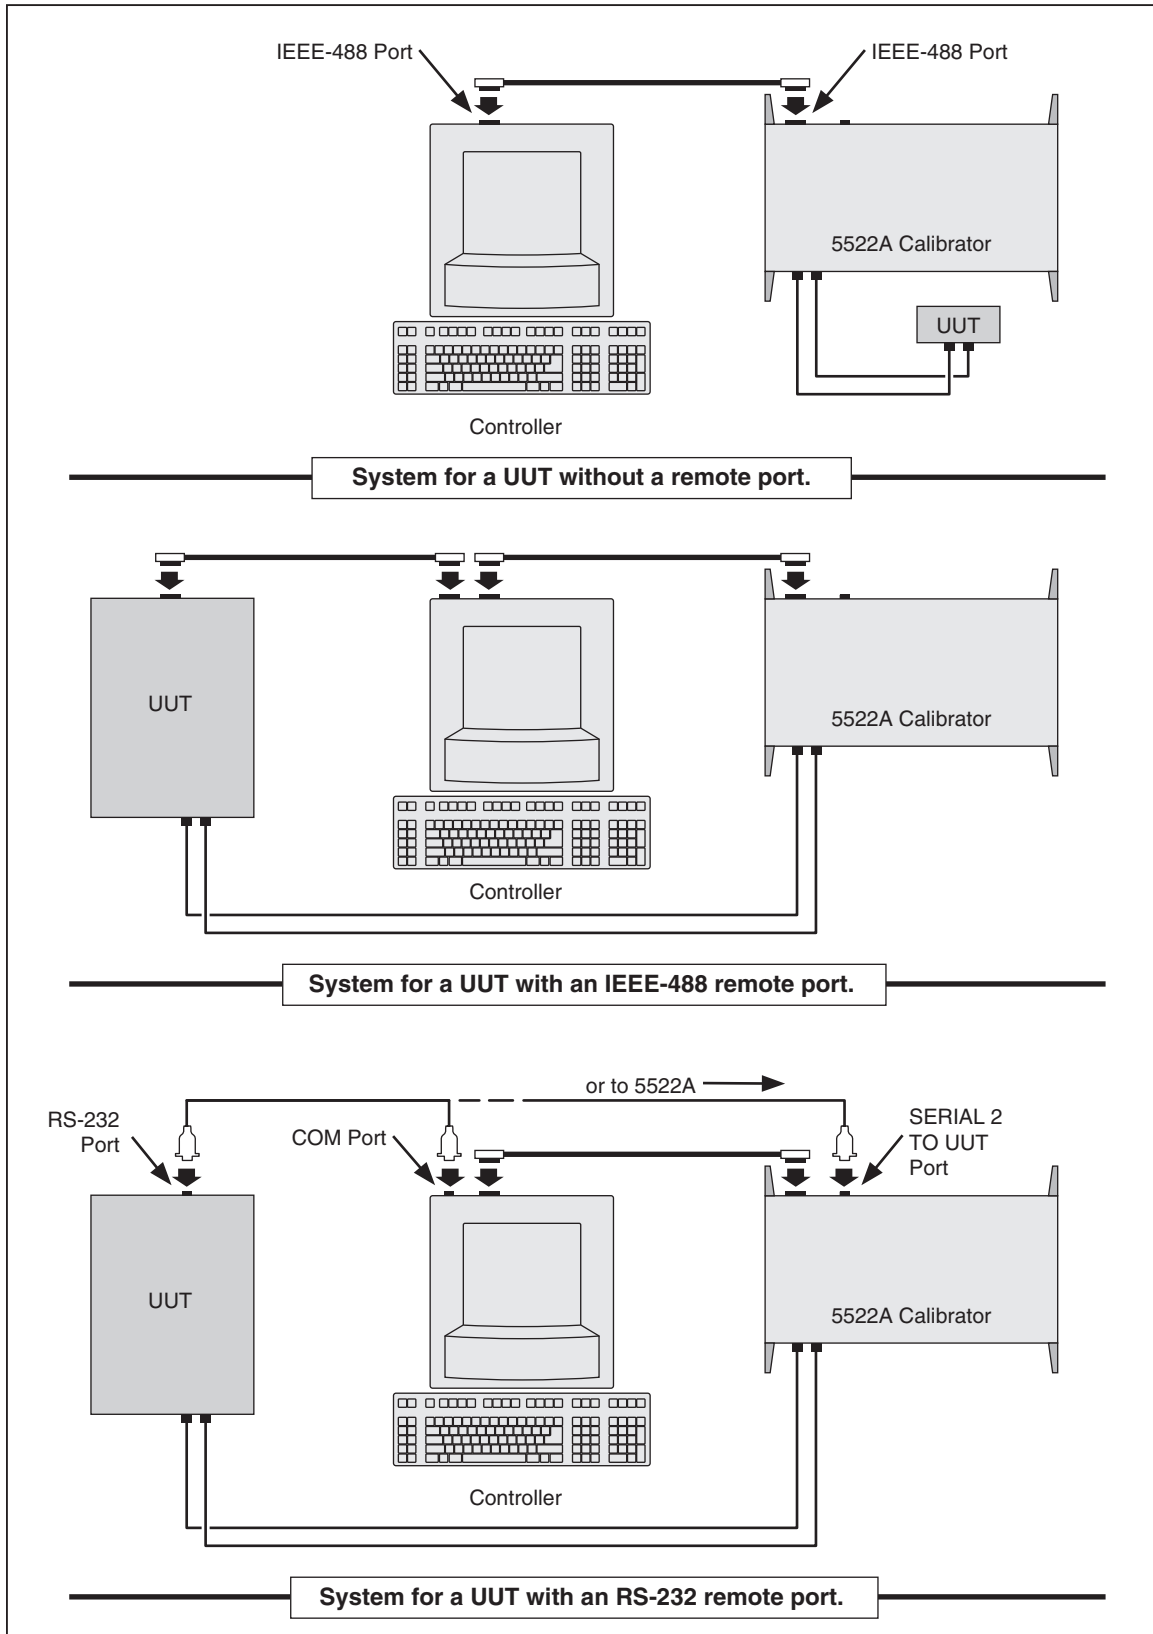

Figure 5-1. Typical IEEE-488 Remote Control Connections
**IEEE-488** The IEEE-488 parallel port is usually used in larger control and calibration systems. An IEEE-488 system is more costly to set up, but has the ability to serve multiple Calibrators and multiple UUTs. Also, parallel system throughput is faster than serial system throughput. The controller in an IEEE-488 system is typically a MS-DOS compatible personal computer (PC) equipped with one or more IEEE-488 ports. You can write your own computer programs for system operation using the command set, or you can purchase optional Fluke calibration software MET/CAL or 5500/CAL, and property management software MET/TRACK. Typical IEEE-488 configurations are shown in Figure 5-1. The configuration showing the PC with two IEEE-488 ports is used with MET/CAL, which prefers UUTs on a separate IEEE-488 port. You can also “piggy-back” the connectors on a single IEEE-488 port.